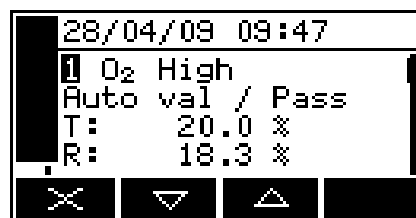

Figure 84 – The validation/calibration history screen (alternate view)
- "<date> <time>" (as in Figure 84), specifying the date and time of the displayed calibration point.